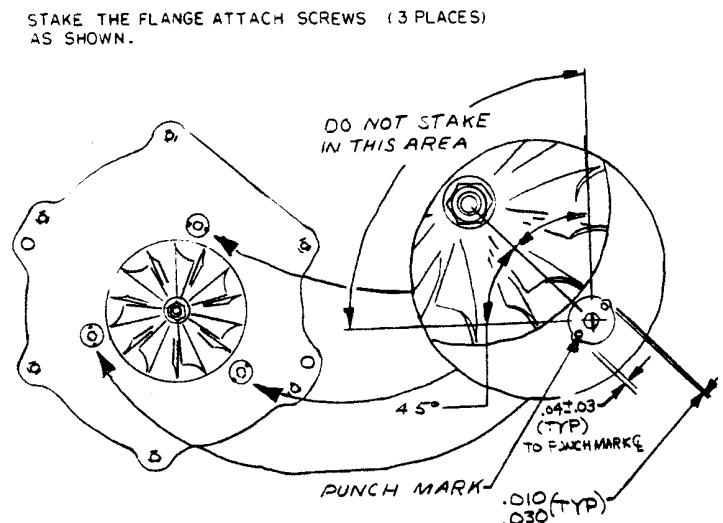

FIG. 2 VIEW OF BRG. HOUSING FLANGE
3. Remove compressor housing using a 5/32 allen wrench to remove (6) countersunk cap screws that secure the compressor housing to the bearing housing assembly. Separate these two components and remove the gasket. It may be necessary to tap the compressor housing gently with a plastic mallet while holding the bearing housing assembly.
4. Tighten (3) cap screws that secure bearing housing flange to bearing housing evenly to 80-100 inch pounds and stake in two places as shown in Figure 2.